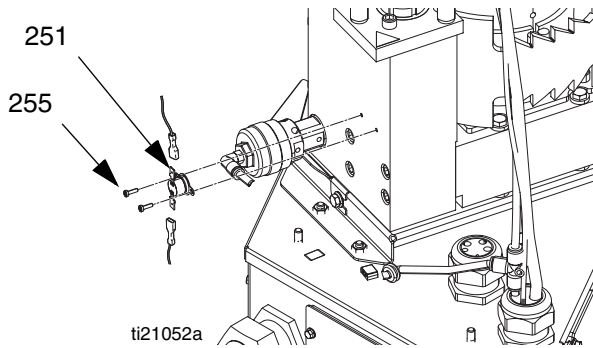

FIG. 43
- Install insulators (53,75) onto the melter assembly (5).
- Connect ground wire ring terminal (87) and ground screw (88) to melter assembly (5).
- Connect wire connectors to the over-temperature switch (251). See FIG. 43 on page 64.
- Use nuts (3) to install metal shroud (27).
- Pull the relief valve air tube (36) through the metal housing then attach air tube to relief valve (245).
- Install front access door (10) onto electrical enclosure (1).
- Reconnect all heated hoses to the melter outlet manifold (203).
10. Disconnect wire connectors from over-temperature switch (251). See FIG. 43 on page 64.
11. Pull cable out of the electrical enclosure then discard sensor (125) and wires.
1. Route new harness wires through grommet (63) in the top of the electrical enclosure.
2. Connect wire connectors to over-temperature switch (251). See FIG. 43 on page 64.
3. Place band heater temperature sensor (125) in melter.
4. Tighten screw (AA).
Disassembly (see FIG. 43):
Re-assembly (see FIG. 43):